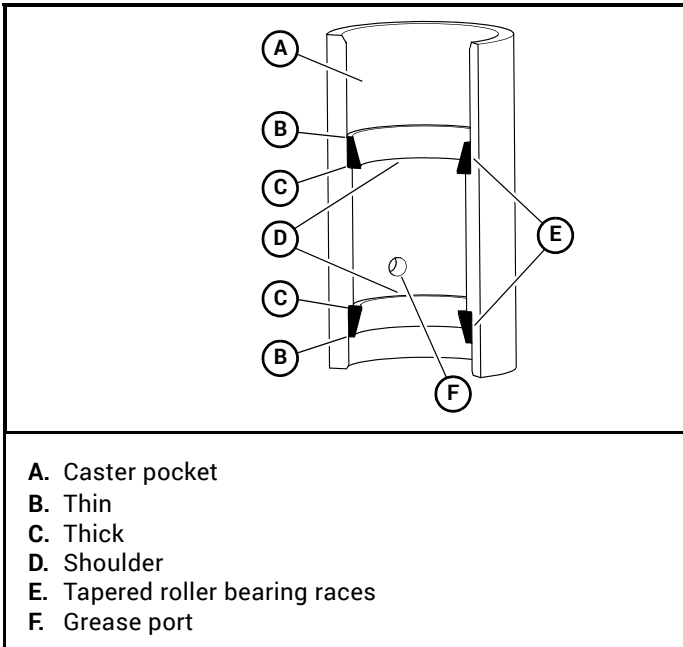

Figure 4-25
7. Make sure the bearings outer race is correctly aligned before pressing the outer race into the fully-seated position against the caster pocket shoulder. Figure 4-25